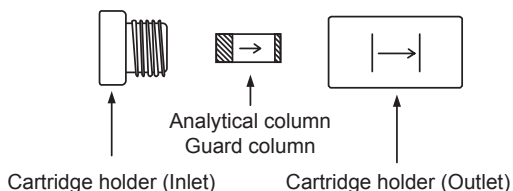

Figure 2 Column Parts
- (1) Confirm the correct product name is listed on the column label.
- (2) Each column is equipped with a union nut enabling a connection to a 1/16"O.D. capillary tubing. The union nut is designed for American standard compression plugs and ferrules.
- (3) Confirm the flow direction on the column label or etched onto the column as shown in Figure 2. Solvent should flow only into the column from the inlet side. The columns are designed so that optimal resolution is obtained when the flow direction is as indicated on the column.
- (4) Purge all air out of the tubing using the mobile phase. This helps to prevent any air from entering the column. Any air in the tubing causes serious deterioration of column efficiency.
- (5) Initially set the solvent flow rate at one-half of the intended flow rate. Make sure that the solvent is flowing freely out of the end of the tubing from the injector.
- (6) Remove the end plugs from the column and connect the inlet of the column to the tubing from the injector. Make sure that the tubing is fully inserted into the compression fittings before tightening in order to minimize dead volume. Always keep dead volume to the absolute minimum throughout the entire system.
- (7) After the solvent flows from the outlet of the column, connect the column to the detector.
- (8) Start pumping the solvent at a flow rate less than one-half of the final flow rate. Avoid a sudden pressure surge to the column.
- (9) The columns are very sensitive to pressure pulsing. A pulseless pumping system should be used.
- (10) The columns should be equilibrated before use by allowing at least 10 column volumes of solvent to pass through the column.
- (11) The product name is not marked on the guard column and the analytical column (2.0 mm(I.D.)×1 cm(L)). Please make sure the product name on the package label. It has Part No. or some lines on the body (TSKgel ODS-100V 3 $\mu$ m: 2 lines).